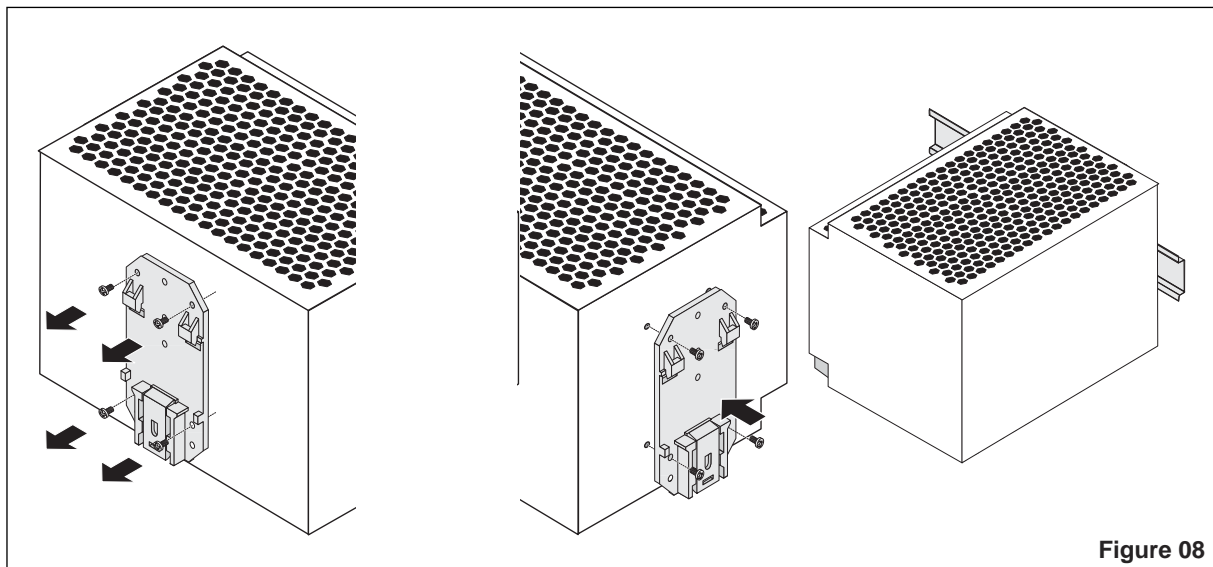

Figure 08
A narrow mounting position can be achieved by mounting the module onto the DIN rail at a 90° angle. To do this, mount the DIN rail adapter (UTA 107) ⑦ as shown in Figure 08. No additional mounting material is required. Mounting screws: Torx T10 (torque 0.8 - 0.9 Nm/7 - 8 lb in.).